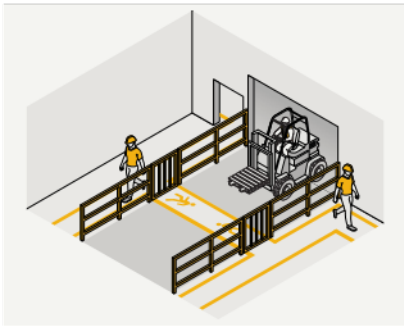

Figure 9: A pedestrian and forklift separation system using fixed barriers and gates.
- Use exclusion zones with physical barriers to restrict forklifts or people from entering the zones. Barriers need to be fixed, as shown in Figure 9.